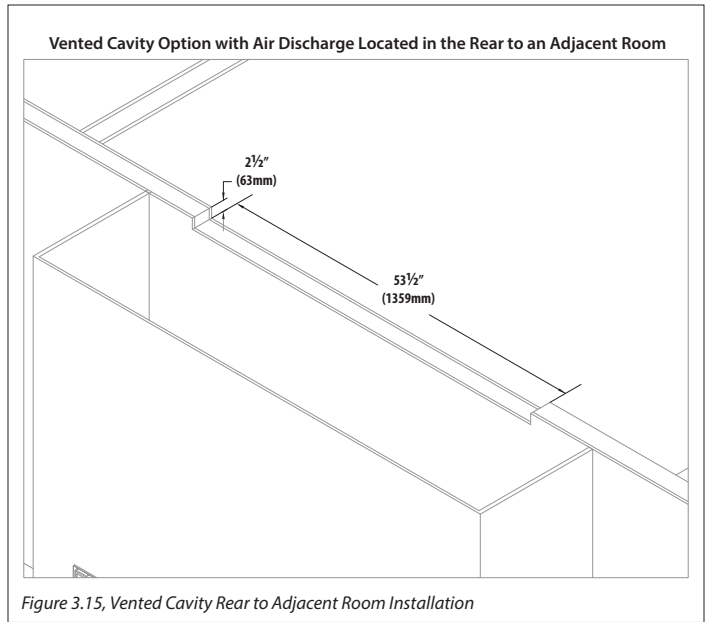
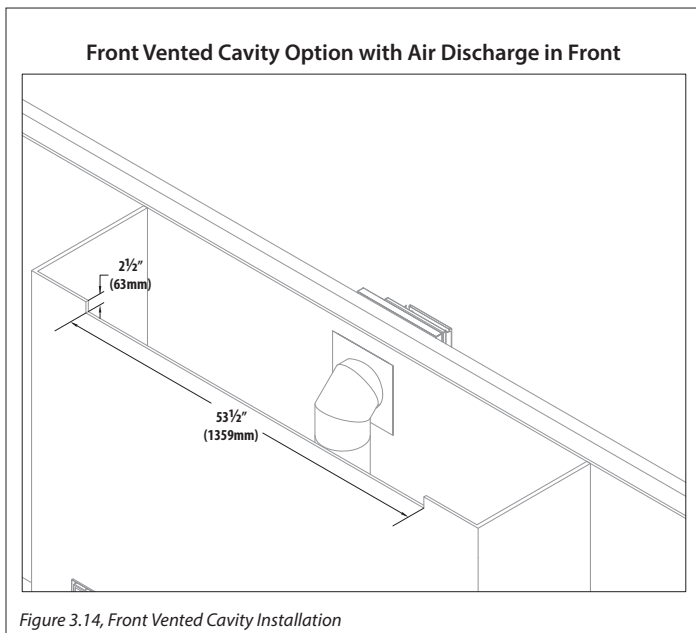

Figure 3.15, Vented Cavity Rear to Adjacent Room Installation
Figure 3.14, Front Vented Cavity Installation
- Figure 3.14 shows the minimum required dimensions for the vent cavity air discharge opening. This single 2-1/2" x 53-1/2" air discharge opening can be in either the front of the fireplace chamber, so hot air exits into the room the fireplace is installed, or the discharge opening can be in an adjacent room where the discharge opening would be located on the rear of the fireplace chamber. See Figure 3.15.